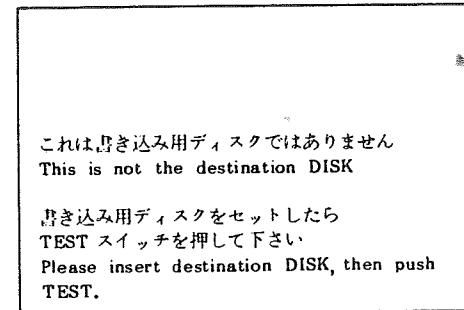
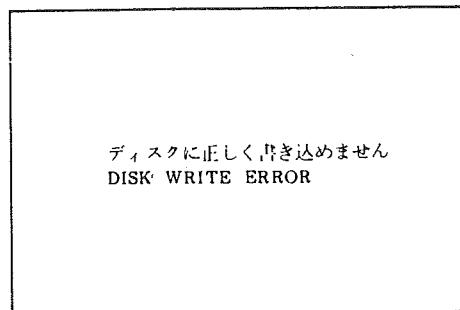
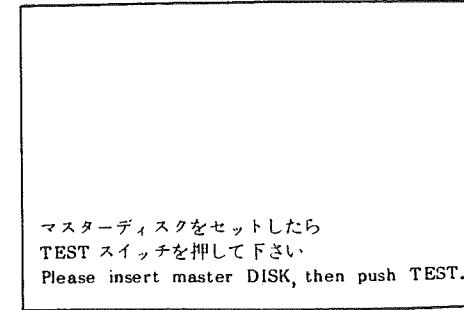

Fig. 6
Fig. 7
Fig. 8
At this time, where PROTECT is set to WRITE NO, Fig. 6 will be shown. Therefore, set the switch to WRITE OK and push the TEST SW after resetting. Also, if the Floppy disk is defective, Fig. 7 will be shown. In this case, replace it with a good one and redo starting from (1). When WRITE is finished, Fig. 8 will be displayed.